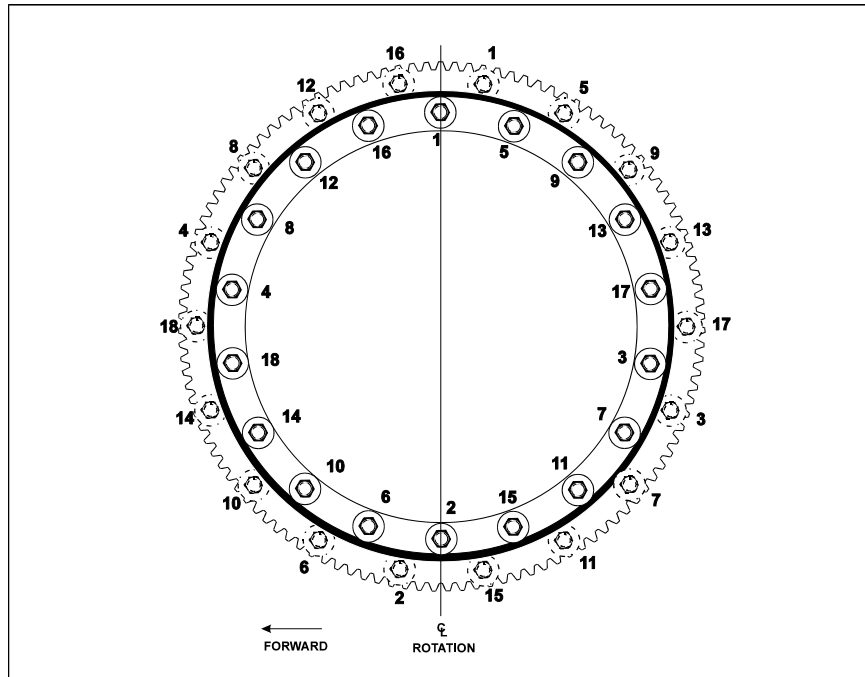

Figure 3-30. Swing Bearing Torque Sequence
- c. Refer to the Torque Sequence diagram as shown in Figure 3-30., Swing Bearing Torque Sequence. Spray a light coat of Safety Solvent 13 on the new bearing bolts. Then apply a light coating of Loctite #271 to the new bearing bolts, and install the bolts and washers through the frame and outer race of the bearing. Tighten the bolts to an initial torque of 326 Nm w/Loctite.
- h. Following the Torque Sequence diagram shown in Figure 3-30., Swing Bearing Torque Sequence, tighten the bolts to a torque of 326 Nm w/Loctite.